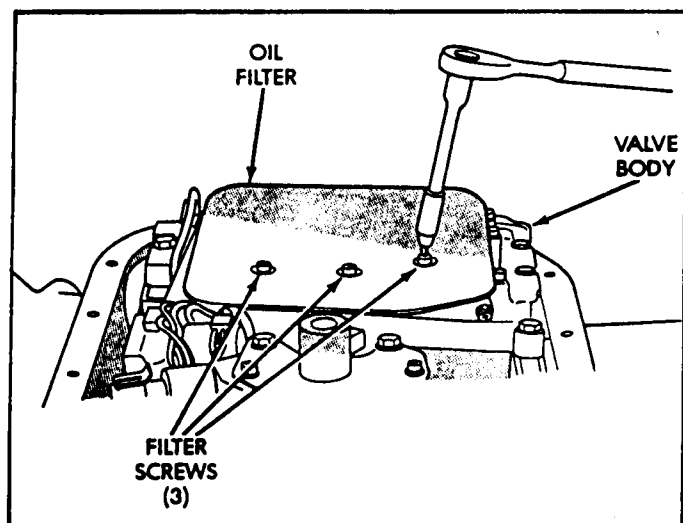

Figure 148
48. Install a new oil filter on valve body and torque screws to 35 in.lbs, shown in Figure 148.